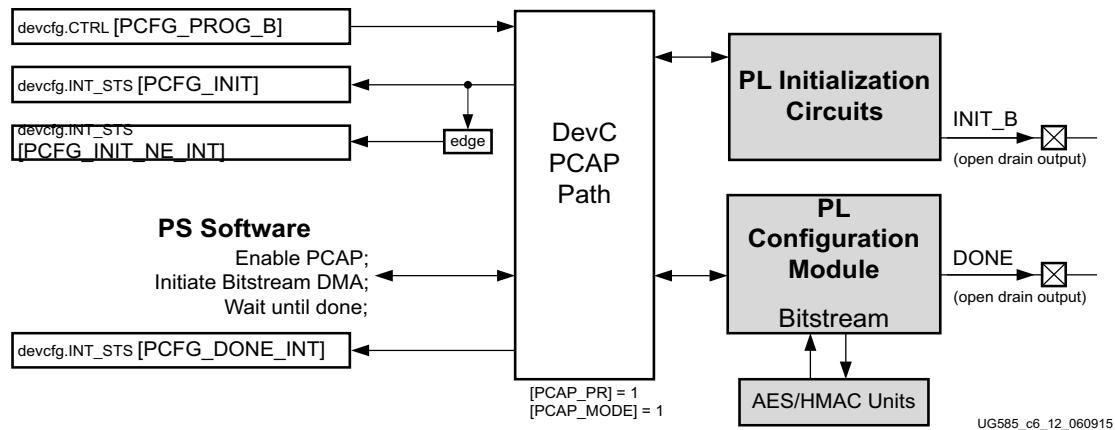

Figure 6-12: PCAP Path for PL Initialization and Configuration
4. **FSBL/User Code to Initialize and Configure PL.** The controls are shown in Figure 6-12. Refer to UG821, Zynq-7000 SoC Software Developers Guide for information on creating FSBL/User code.
The PL is controlled by PS software (Figure 6-12) through the PCAP bridge or using external pins and the JTAG interface associated with the PL (Figure 6-20, page 220).
The PS and PL can be brought up together in a secure or non-secure mode. The simultaneous bring-up of the PS and PL is shown in Figure 6-12. Also refer to Figure 6-4, page 165 for details on power, reset, and clock interactions and timing examples. The PS non-secure bring-up using a flash device without JTAG illustrates a simple example with minimal resources. The example is shown in Figure 6-14. When the PL is needed later in the system operation, its bring-up is explained in the PL Bring-up by FSBL/User Code example.